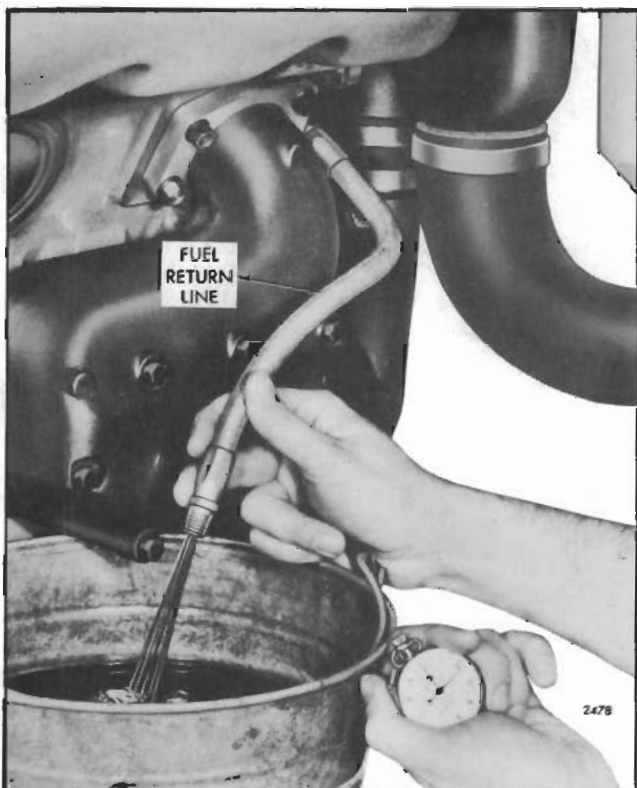

Fig. 7 - Measuring Fuel Flow From Fuel Return Manifold
1. Disconnect the fuel return line from the fitting at the fuel tank and hold the open end in a convenient receptacle (Fig. 7).